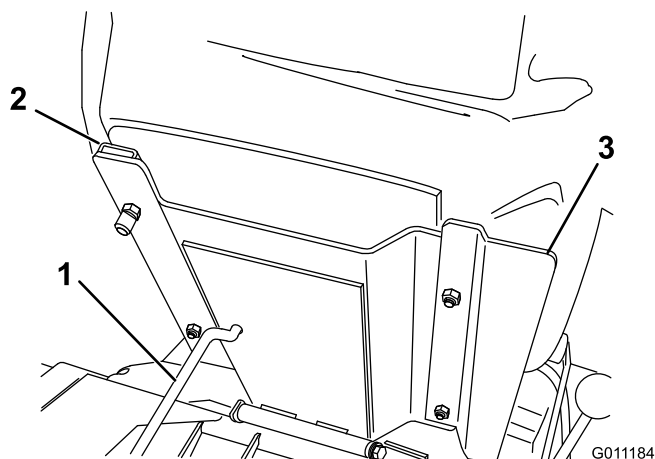

Figure 5
3. Secure the seat, seat panel, and seat slides to the seat support with the locknuts (5/16 inch) (Figure 5) supplied in the loose parts. Mount the seat panel on the right side, positioned as shown in Figure 5.